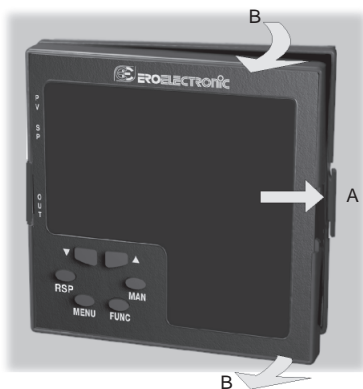

Fig. 1
- 3) While the lock A is maintained out, slide out the right side of the instrument (see fig. 1).